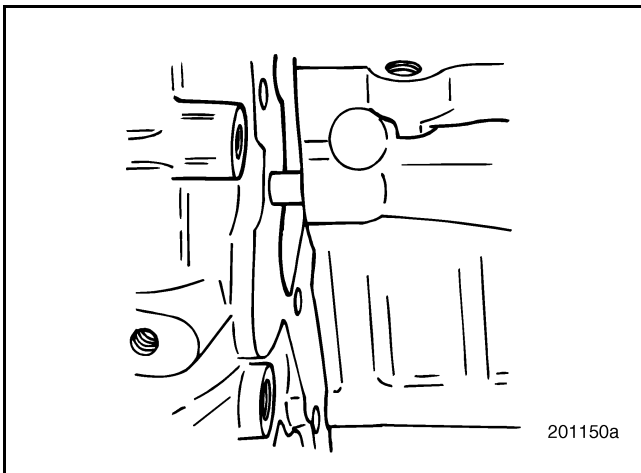

Figure 339 — Positioning Flywheel Housing
- Align the flywheel housing on the dowels and position it flush against the cylinder block surface. Refer to Figure 339.